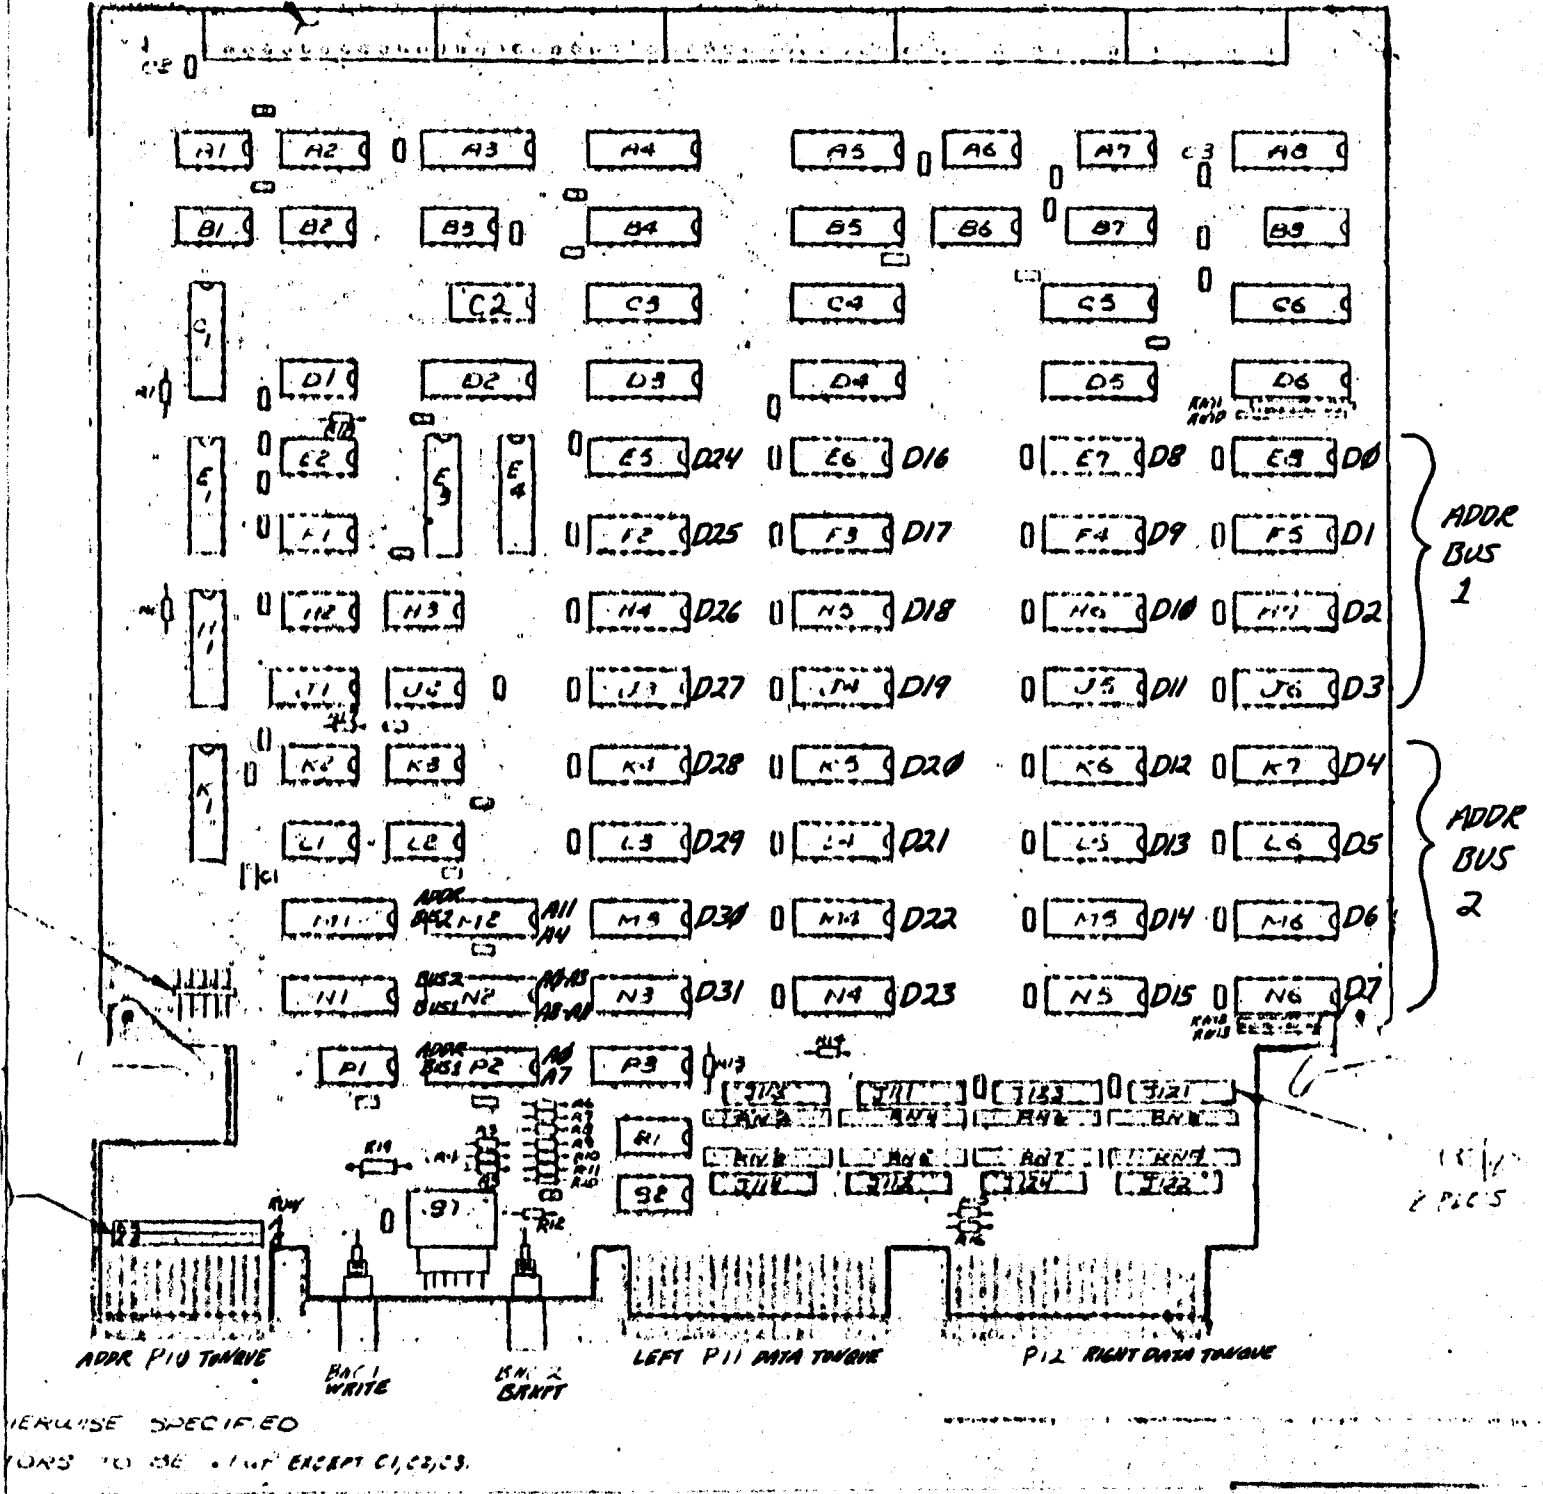

Figure 4.4.1
DATA = Is the actual data read at failure. 8 bits on 8080 side; 32 bits on user port tests. See figure 4.4.1 for data and address locations.
3. Any bit dropping difficulty may be attributable to a bad RAM in one or more memory locations. Refer to Figure 4.4.1 for locations of data in RAM. Switching I.C.'s in a logical manner will verify the faulty I.C.